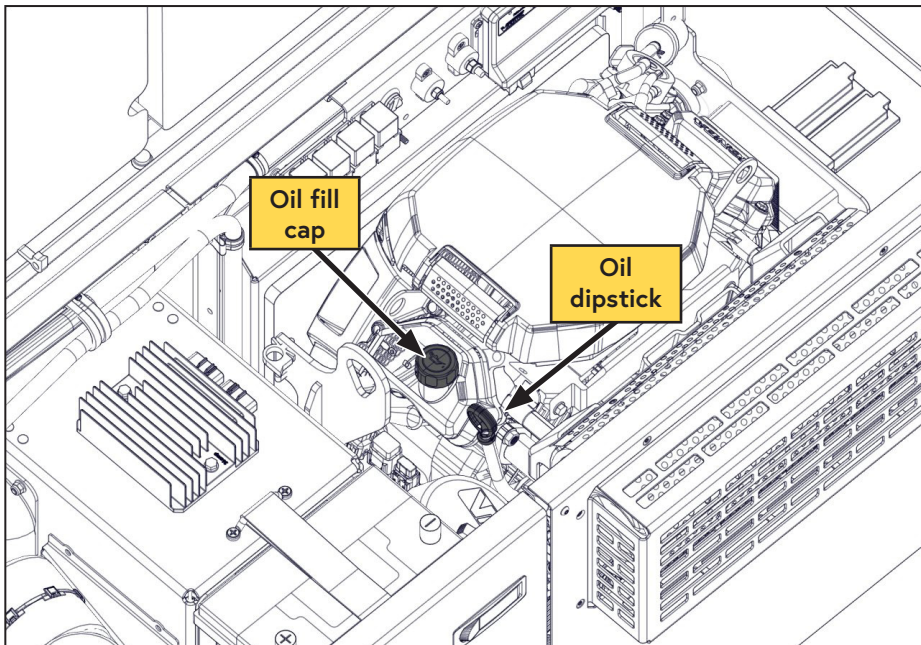

Figure 35 — Remove oil fill cap
- Remove the engine oil fill cap (Figure 35).